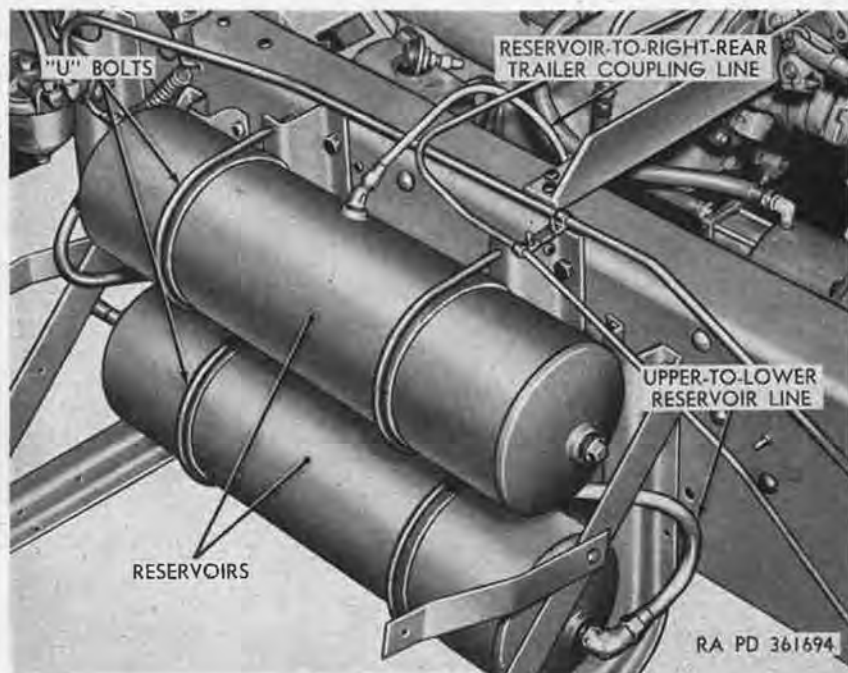

Figure 253. Air reservoirs installed on outside of frame left side rail.
a. *Draining.* To drain air reservoirs (fig. 253), open drain cock on underside of lower air reservoir. When all water has drained from reservoir, close drain cock.
- (1) *Coordination with ordnance maintenance unit.* Refer to paragraph 2.
- (2) *Removal.*
- (a) Open drain cock on underside of lower air reservoir (fig. 253) to relieve pressure in compressed air system.
- (d) Unscrew connector securing upper-to-lower-reservoir line (fig. 253) to rear end of lower reservoir, and remove line from reservoir.
- (f) Unscrew connector securing reservoir-to-right-rear-trailer-coupling line (fig. 253) to top of upper reservoir, and remove line from reservoir.
- (g) Support lower reservoir, remove two nuts from front and rear "U" bolts (fig. 253), remove "U" bolts from reservoir-mounting brackets, and remove lower reservoir from vehicle.
- (h) Support upper reservoir, remove two nuts from front and rear U bolts (fig. 253), remove "U" bolts from reservoir-mounting brackets, and remove upper reservoir from vehicle.
- (3) *Installation.*
- (a) Position upper reservoir (fig. 253) at mounting bracket bolted to outside of frame left side rail, install front and rear "U" bolts over reservoir with ends inserted in holes in bracket, and install two nuts on each U bolt. Tighten nuts.
- (b) Install lower reservoir (fig. 253), using same procedures as in (a) above.
- (c) Position reservoir-to-right-to-rear-trailer-coupling line (fig. 253) at outlet on top of upper reservoir, and tighten connector.
- (d) Position upper-to-lower-reservoir line (fig. 253) at inlet on underside of upper reservoir, and tighten connector.
- (1) Open drain cock on underside of lower air reservoir (fig. 253) to relieve pressure in compressed air system.
- (3) Screw cap on air supply valve outlet.
- (4) Close drain cock on underside of lower air reservoir (fig. 253).